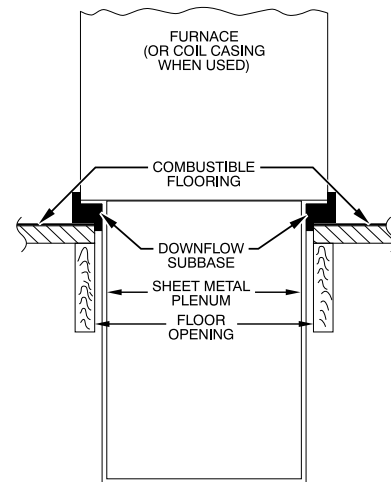
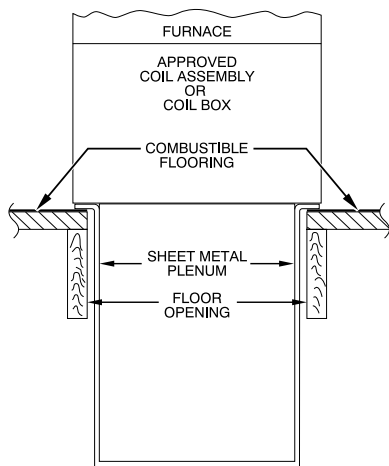

Fig. 12 – Furnace, Plenum, and Subbase Installed on a Combustible Floor
Fig. 13 – Furnace, Plenum, and Coil Assembly or Coil Box Installed
4. If downflow subbase is used, install as shown, see Fig. 12. If manufacturer's cased evaporator coil or coil casing is used, install as shown in, see Fig. 13.